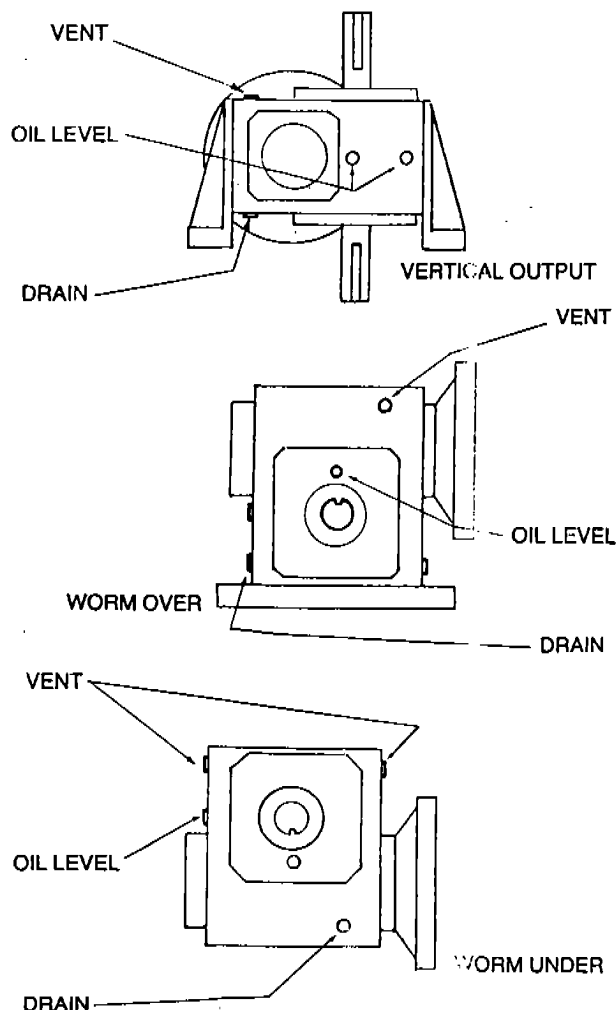
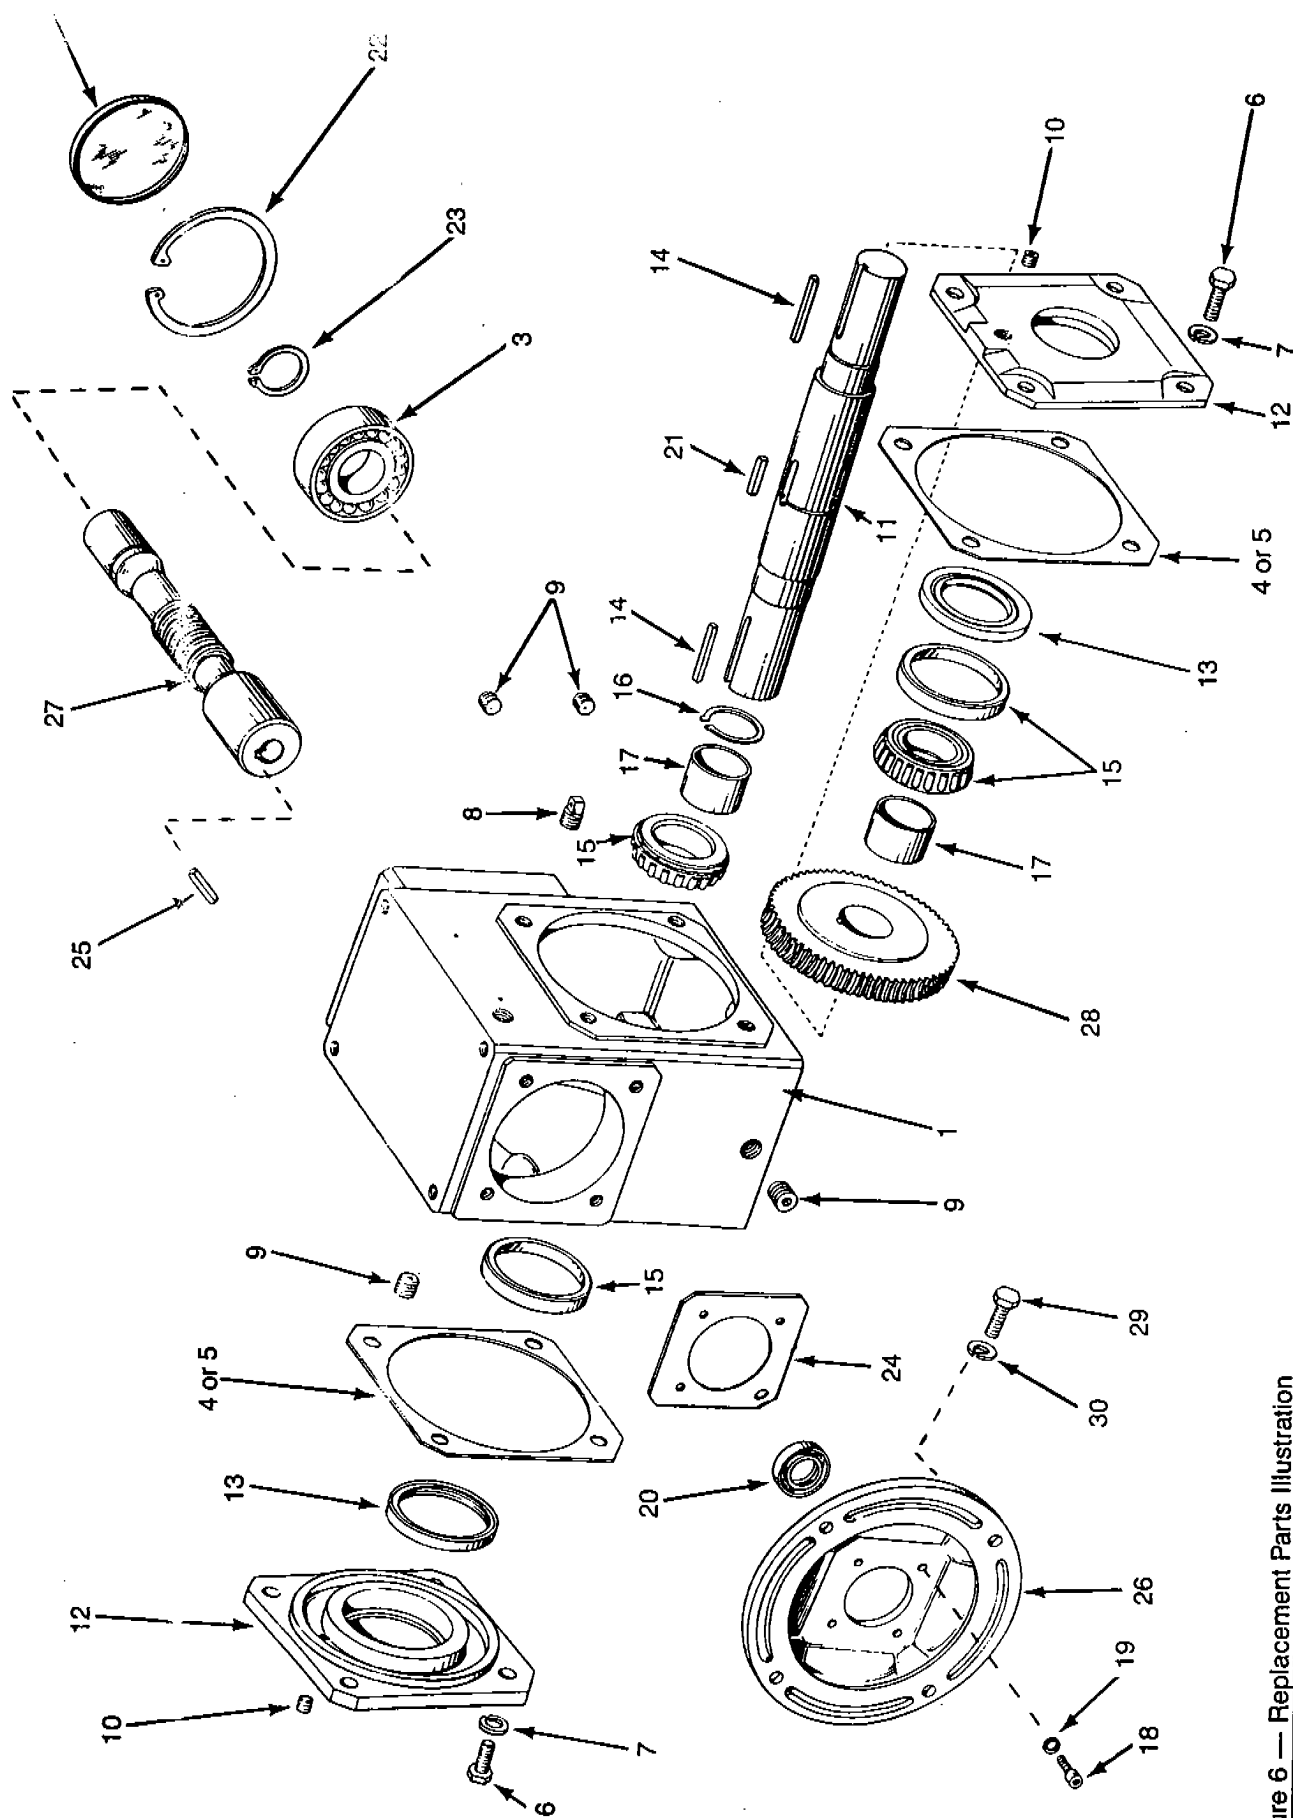

Figure 5 — Location of Vent, Oil Level, and Drain Plugs for Each Reducer Mounting Position
Figure 6 — Replacement Parts Illustration
3. There are 6 pipe plugs and 1 vent plug on the reducer. (See Figure 6, Ref. Nos. 8, 9 & 10.) Check the positions of the vent plug and pipe plugs after the reducer is installed. The vent plug should be the uppermost (highest) of the group. If it is not, interchange the vent plug with the pipe plug which is in the uppermost position. (See Figure 5.)
- Before running a new reducer for the first time after it has been installed, check it for vent plug location and proper oil level. Figure 5 illustrates the correct vent, oil level, and drain plug locations for the three reducer mounting positions. Interchange positions of plugs on reducer, if necessary. The oil level in the reducer should be at oil level plug height. Add or drain off oil if necessary.
The speed reducer was filled with AGMA #8 gear lube oil at the factory. Check the oil level after installing the reducer, making sure it is correct for the reducer mounting position before running the reducer. (See Figure 5, on page 3. The oil level should be at oil level plug height.) If the level is low, drain the remaining oil, then refill the reducer to the correct level — do not mix brands of oil.
To prevent seal damage and gear misalignment when replacing the oil seal, proceed as follows (see Figure 6):